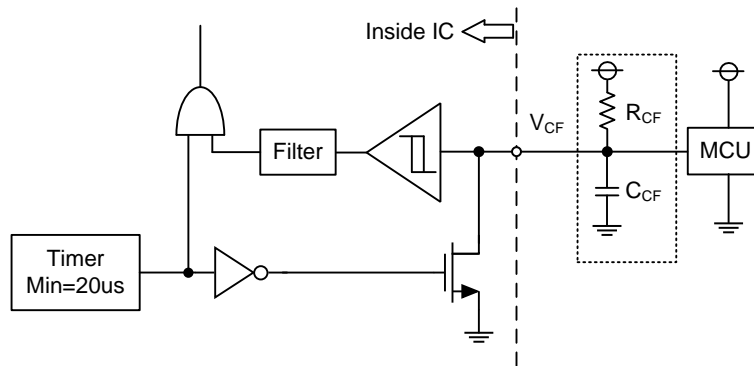

Figure 5. V_{CF} Output Circuit
- (1) If the control GND is connected with the power GND by common broad pattern, it may cause malfunction by power GND fluctuation. It is recommended to connect the control GND and power GND at a single point (N1), near the terminal of the shunt resistor.
- (2) There are two COM pins in the IPM but it is recommended to only use the (15) COM pin to minimize SC detection noise.
- (3) A zener diode D1 (24V/1W) is recommended between each pair of control supply pins to prevent surge destruction.
- (4) Prevention of surge destruction can further be improved by placing the bus capacitor as close to pin P and N1 as possible. Generally a 0.1-0.22μF snubber capacitor C3 between the P-N1 terminals is recommended.
- (5) Selection of the R1*C4 filter components for short-circuit protection is recommended to have tight tolerance, and is temperature-compensated type. The R1*C4 time constant should be set such that SC current is shut down within 2μs; (typically 1.5-2μs). R1 and C4 should be placed as close as possible to the C_{SC} pin. SC interrupting time may vary with layout patterns and components selection, therefore thorough evaluation in the system is necessary.
- (6) Tight tolerance and temperature-compensated components are also recommended when selecting the R2*C5 filter for V_{OT}. The R2*C5 time constant should be set such that V_{OT} is immune to noise. Recommended values of R2 and C5 are 2kΩ and 10nF.
- (7) To prevent malfunction, traces A, B, and C should be as short as possible.
- (8) It is recommended that all capacitors are mounted as close to the IPM as possible. (C1: electrolytic type with good temperature and frequency characteristics. C2: ceramic type with 0.1-2μF, good temperature, frequency and DC bias characteristics.)
- (9) Input drives are active-high. There is a minimum 3.5k Ω pull-down resistor in the input circuit of IC. To prevent malfunction, the layout to each input should be as short as possible. When using RC coupling circuit, make sure the input signal levels meet the required turn-on and turn-off threshold voltages.
- (10) V_{CF} output is open drain type. It should be pulled up to MCU or control power supply (max= 5 \pm 0.5V), limiting the current (I_{CF}) to no more than 1mA. I_{CF} is estimated roughly by the formula of control power supply voltage divided by the pull-up resistor R3. For example, if control supply is 5V, a 10k Ω (over 5k Ω) pull-up resistor R3 is recommended.
- (11) If only a pull-up resistor R3 of 10k Ω connected to V_{CF} pin, the fault output pulse width is fixed at minimum 20 μ s. If a capacitor C6 is connected with a pull-up resistor R3, the fault output pulse width can be controlled according to the resistor value and capacitor value. For the design guide, please refer to the Figure 5.
- (12) Direct drive of the IPM from the MCU is possible without having to use opto-coupler or isolation transformer.
- (13) The IPM may malfunction and erroneous operations may occur if high frequency noise is superimposed to the supply line. To avoid such problems, line ripple voltage is recommended to have $dV/dt \leq \pm 1V/\mu s$, and $V_{ripple} \leq 2V_{p-p}$.
- (14) It is not recommended to use the IPM to drive the same load in parallel with another IPM or inverter types.